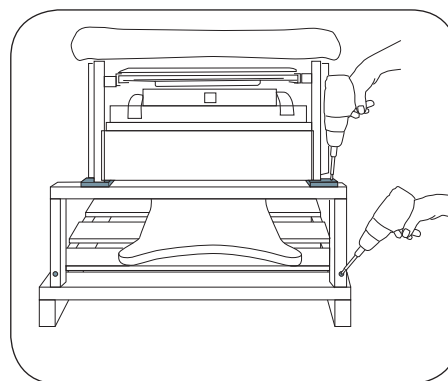

Figure 3. Remove Spacer and U-Brace Screws
3. Remove the 2 screws attaching the spacers on either side of the wooden U-shaped brace located under the front corners of the cabinet (Figure 3). Remove the 2 screws attaching the U-shaped brace to the pallet (Figure 3).